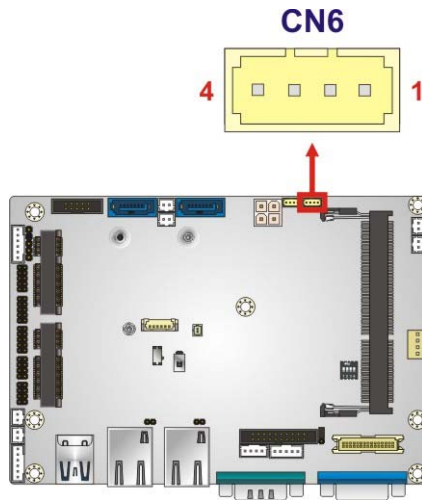

Figure 3-23: SMBus Connector Location
- CN Location:** See Figure 3-23